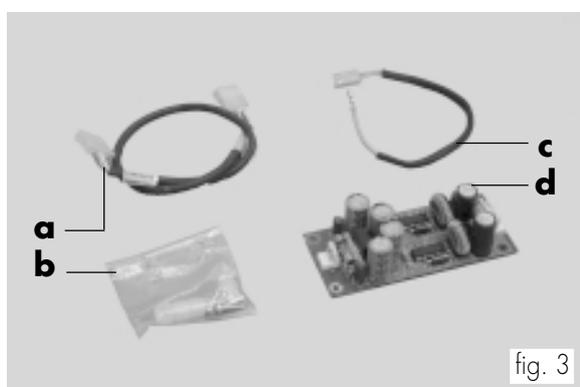
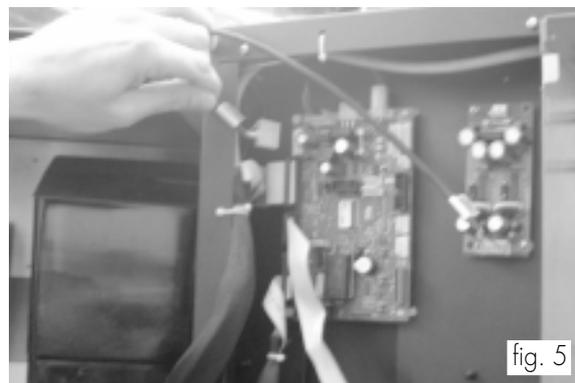

fig. 3
fig. 5
Assembly kit (fig. 3)
- Open the upper door and fasten (fig. 4) the payment system power supply board (ref. d, fig. 3) to the same door by using the four screws and spacers (ref. b, fig. 3).
- Connect the wiring harness (ref. a, fig. 3) to the payment system power supply board as well as to the CPU card (fig. 5). See instructions on harness to carry out the connection.
- Connect the two-pin connector (ref. c, fig. 3) to the payment system power supply board. Connect the 2 contacts of the other end to the 2 free slots of the 4-pin connector that was previously unplugged from the CPU card (fig. 7).